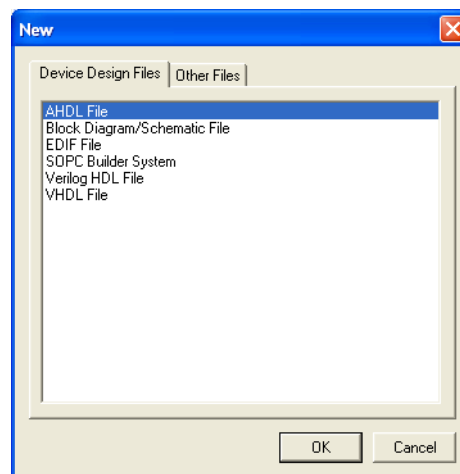
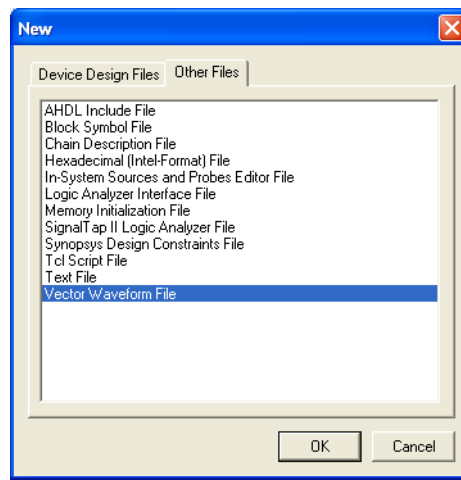

Figure 28. Need to prepare a new file.
Figure 29. Choose to prepare a test-vector file.
1. Open the Waveform Editor window by selecting **File > New**, which gives the window shown in Figure 28. Click on the **Other Files** tab to reach the window displayed in Figure 29. Choose **Vector Waveform File** and click OK.